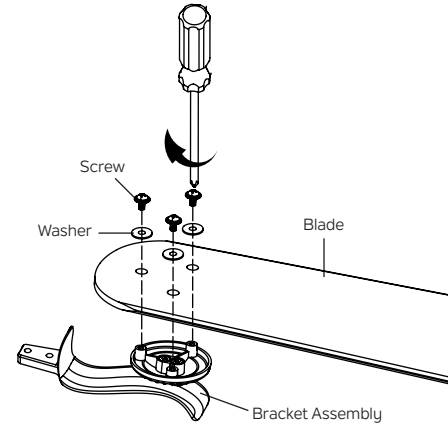

Fig. 20
Step 1. Attach the blades to the bracket assemblies as shown, securely tighten with screws and washers from the hardware pack. (Fig. 20)